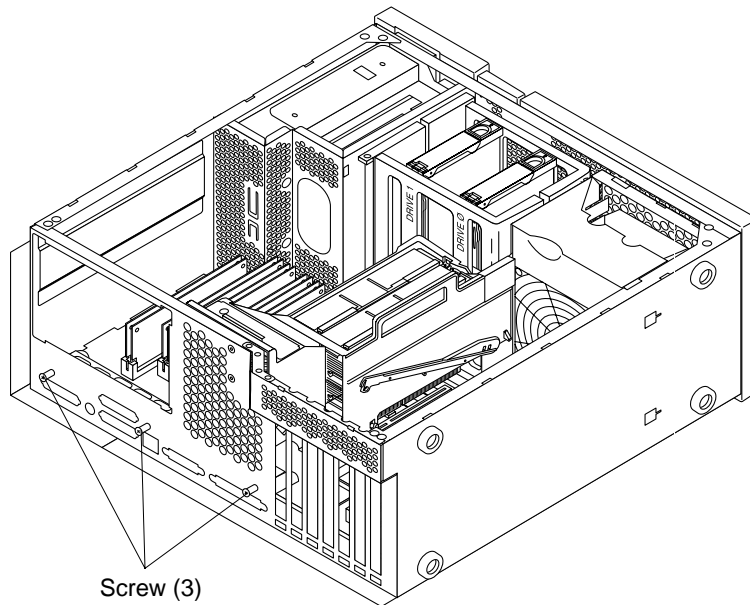

FIGURE 10-7 Removing and Replacing the Motherboard (Part 1 of 2)
- Remove the three screws securing the motherboard to the chassis (FIGURE 10-7).
- Replace the three screws securing the motherboard to the chassis (FIGURE 10-7).